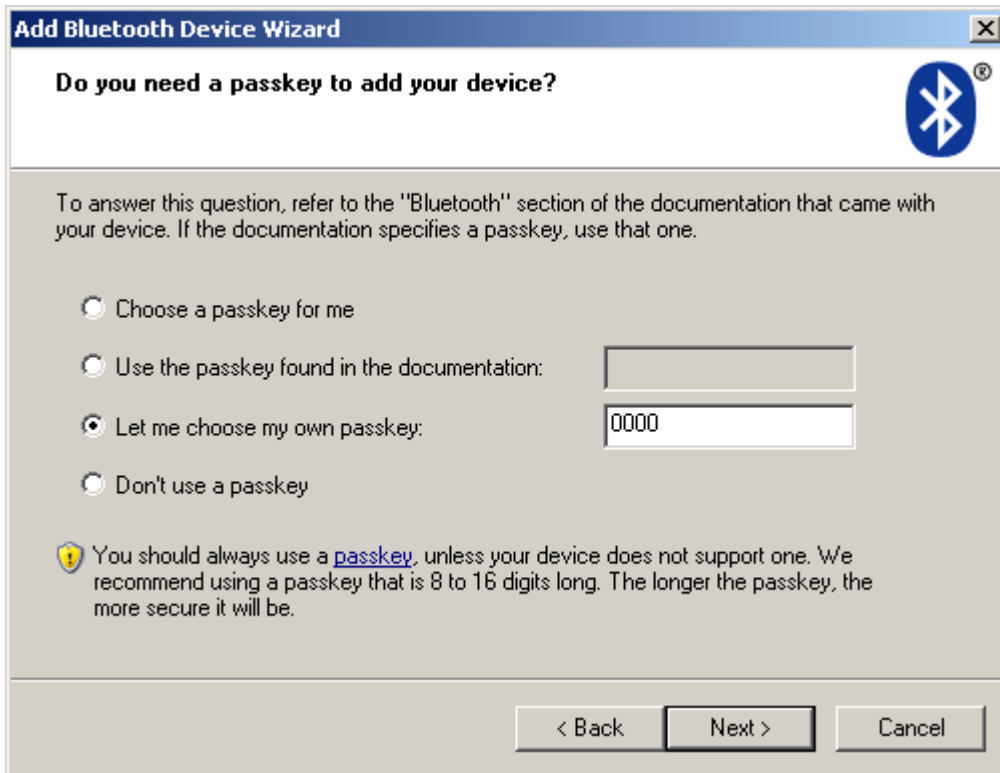

Figure 3-27
3.4.7 Click “Next” button in the interface as shown in Figure 3-27, then click “Finish” button in the interface, as shown in Figure 3-28.